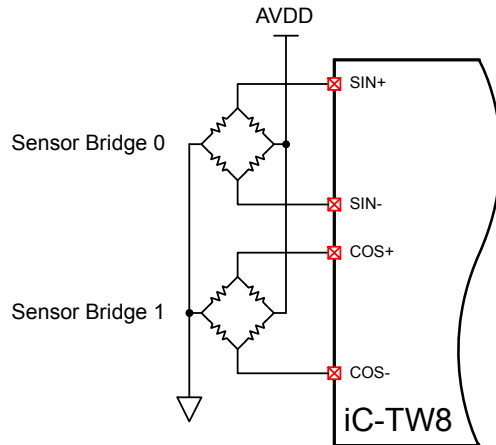
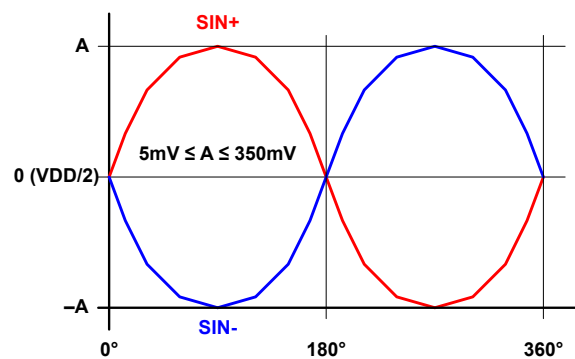

Figure 11: Differential Sensor Connection
Figure 12: Differential Sensor Signal Inputs
The iC-TW8 connects directly to magnetic (such as the iC-SM2L or iC-SM5L) or optical sensors providing differential Sin/Cos outputs as shown in Figure 11. Signal amplitude (A) from all four sensor channels must be in the range of 5 – 350mV as shown in Figure 12 for proper operation with the iC-TW8.